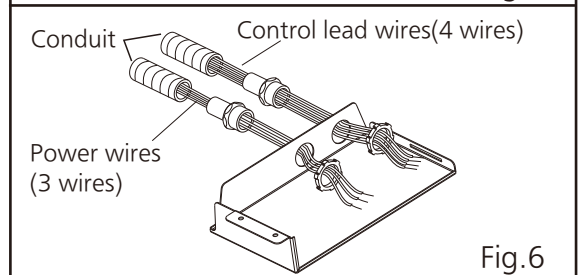

Fig.6
- ② Secure conduits, pass house power wires and control lead wires through the holes. (Fig.6)